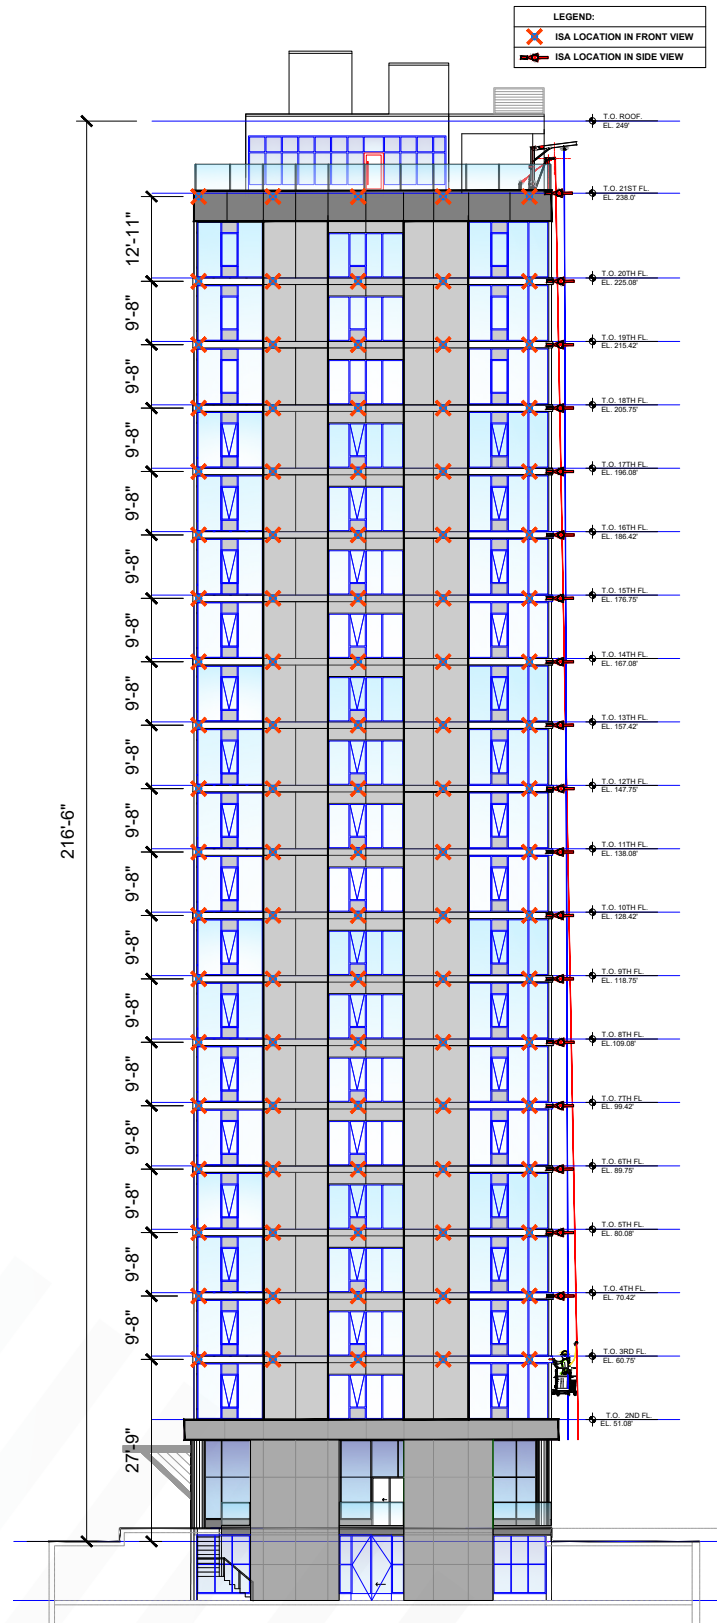

Figure 4: Building Elevation showing ISA locations at each floor.
The Occupational Safety and Health Administration (OSHA) standards at 29 CFR 1910.28(g)(11) require that two point suspension scaffolds be securely lashed to the building to prevent swaying at each working level. Therefore, proper anchors are necessary at each stage drop for ground rigged platforms. See Figure 4